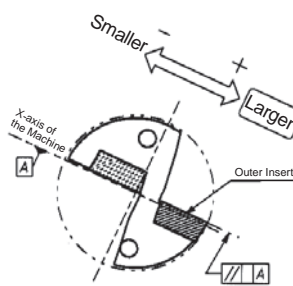
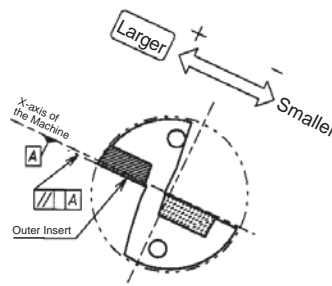

Fig.2 Outer insert Facing Up
Fig.3 Outer insert Facing Down
- ① The moving direction of the X-axis movement depends on the position of the toolholder.
- ② In case of making the hole diameter larger, slide the tool along the X-axis toward the outer insert side. (Fig.2, Fig.3)